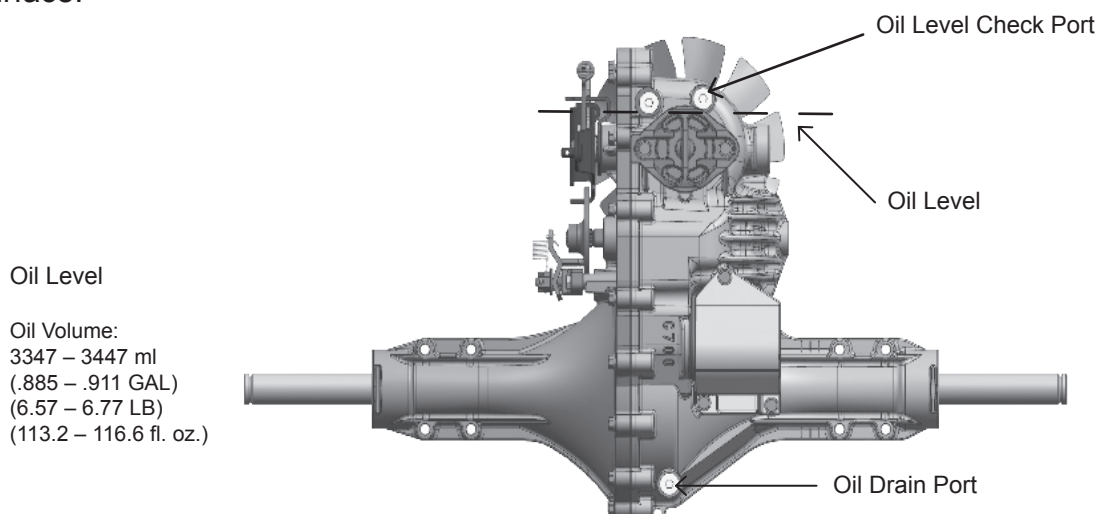

Figure 4b, Configuration B - Horizontal Input
2. Remove oil level check port plug at top of unit. (See figure 4b.)